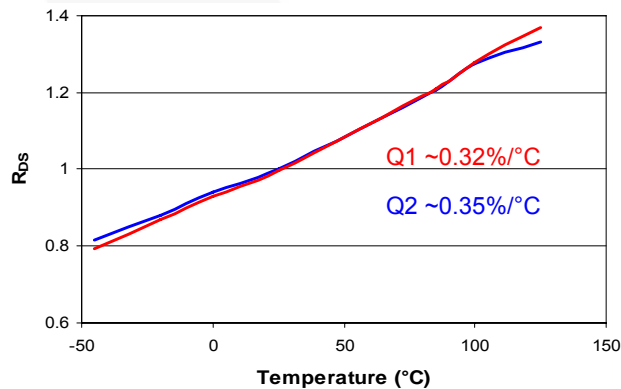

Figure 8. R_{DS} vs. Temperature, Normalized ($V_{CC}=V_{GS}=5V$)
- K_T = Normalized temperature coefficient of the low-side MOSFET (Q2 from Figure 8);